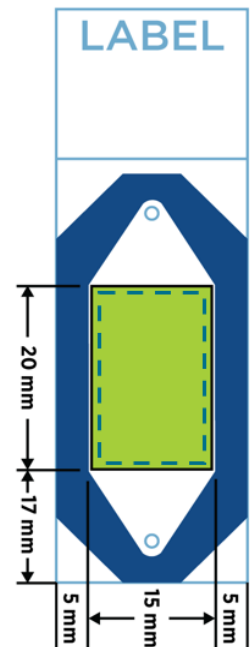

Figure 53: Tissue scan area (not to scale)
- Tissue sections should be sectioned **5  $\mu\text{m}$  thick** and mounted on the label side of Leica BOND Plus slides or VWR Superfrost Plus Micro Slides (Figure 53) (figure not to scale; see the template on the Flow Cell Assembly Tool for a to-scale template). Leica BOND Plus slides are required for BOND RX/RXm semi-automated slide preparation and are preferable in manual slide preparation for tissues with poor adherence.
- Sections should be mounted in the center of the tissue scan area (shown in green in Figure 53), fitting within the dimensions 20 mm x 15 mm, to allow adequate room for flow cell coverslip adhesives at the edges of the scan area. If mounting multiple sections per slide, ensure that all tissues are at least 2–3 mm apart and still contained within the scan area. For best performance, there should be some bare glass (not covered by tissue) in the scan area (Figure 54).
- Tissue sections should be sectioned **5 µm thick** and mounted on the label side of Leica BOND Plus slides or VWR Superfrost Plus Micro Slides (Figure 53) (figure not to scale; see the template on the Flow Cell Assembly Tool for a to-scale template). Leica BOND Plus slides are required for BOND RX/RXm semi-automated slide preparation and are preferable in manual slide preparation for tissues with poor adherence. During sectioning, it is important to cut across the tissue with a smooth, consistent turn of the hand wheel. Blocks may be sectioned up to 10 µm thickness; however, the instrument will only image the 5 µm closest to the slide.